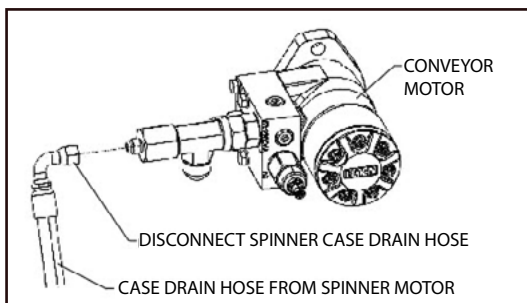

Figure 15a - Case Drain Hose Removal
3. Disconnect case drain from conveyor motor and cap fitting (Figures 15a & 15b).